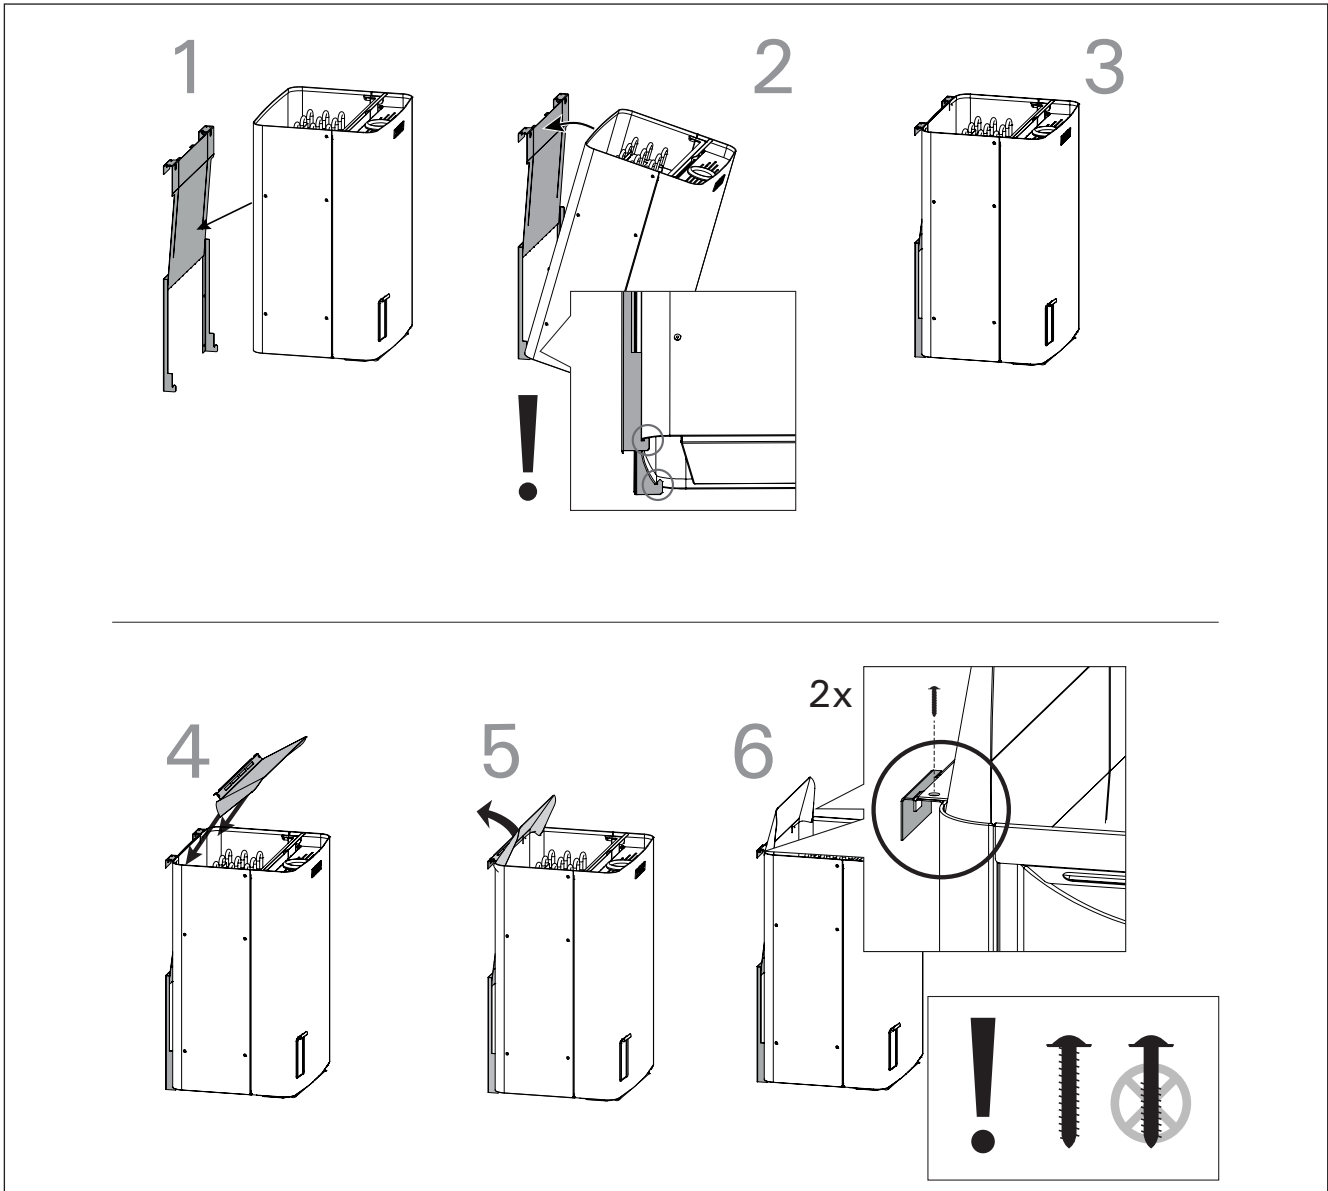

Figure 9.
3. Lift the heater into the mount and make sure it is centered (figure 9:1-3).
4. Install the steam guide to the heater and the wall mount (figure 9:4-5).
5. Secure the heater to the wall mount by screwing two screws behind the steam guide (figure 9:6).